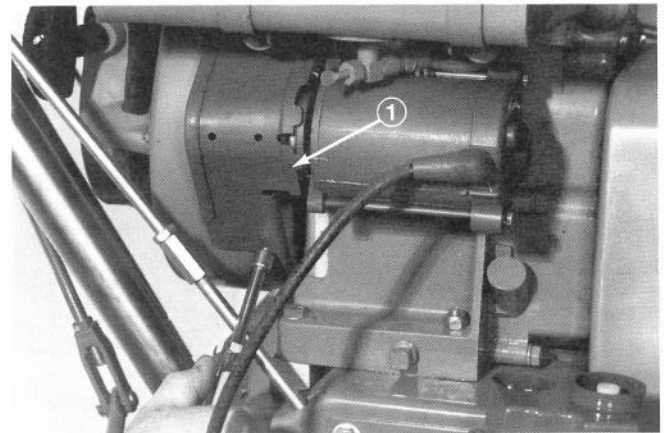

Figure 3
3. Install cover over Bendix gear end of starter motor and secure with two self-tapping screws (Fig. 3).